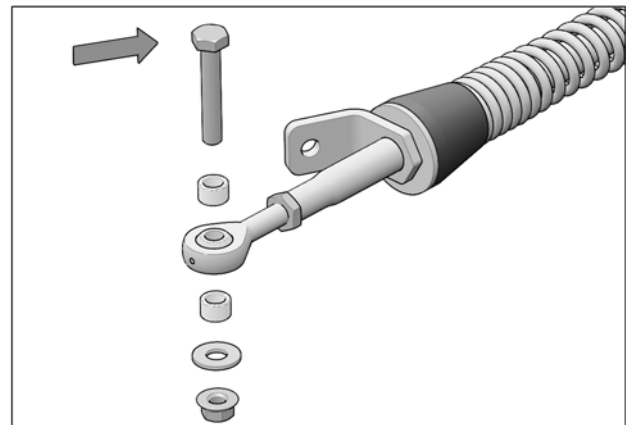

Fig. 3
- Remove bolts, washers and spacer bushings from rear stabilizing rod ends. See Fig. 3